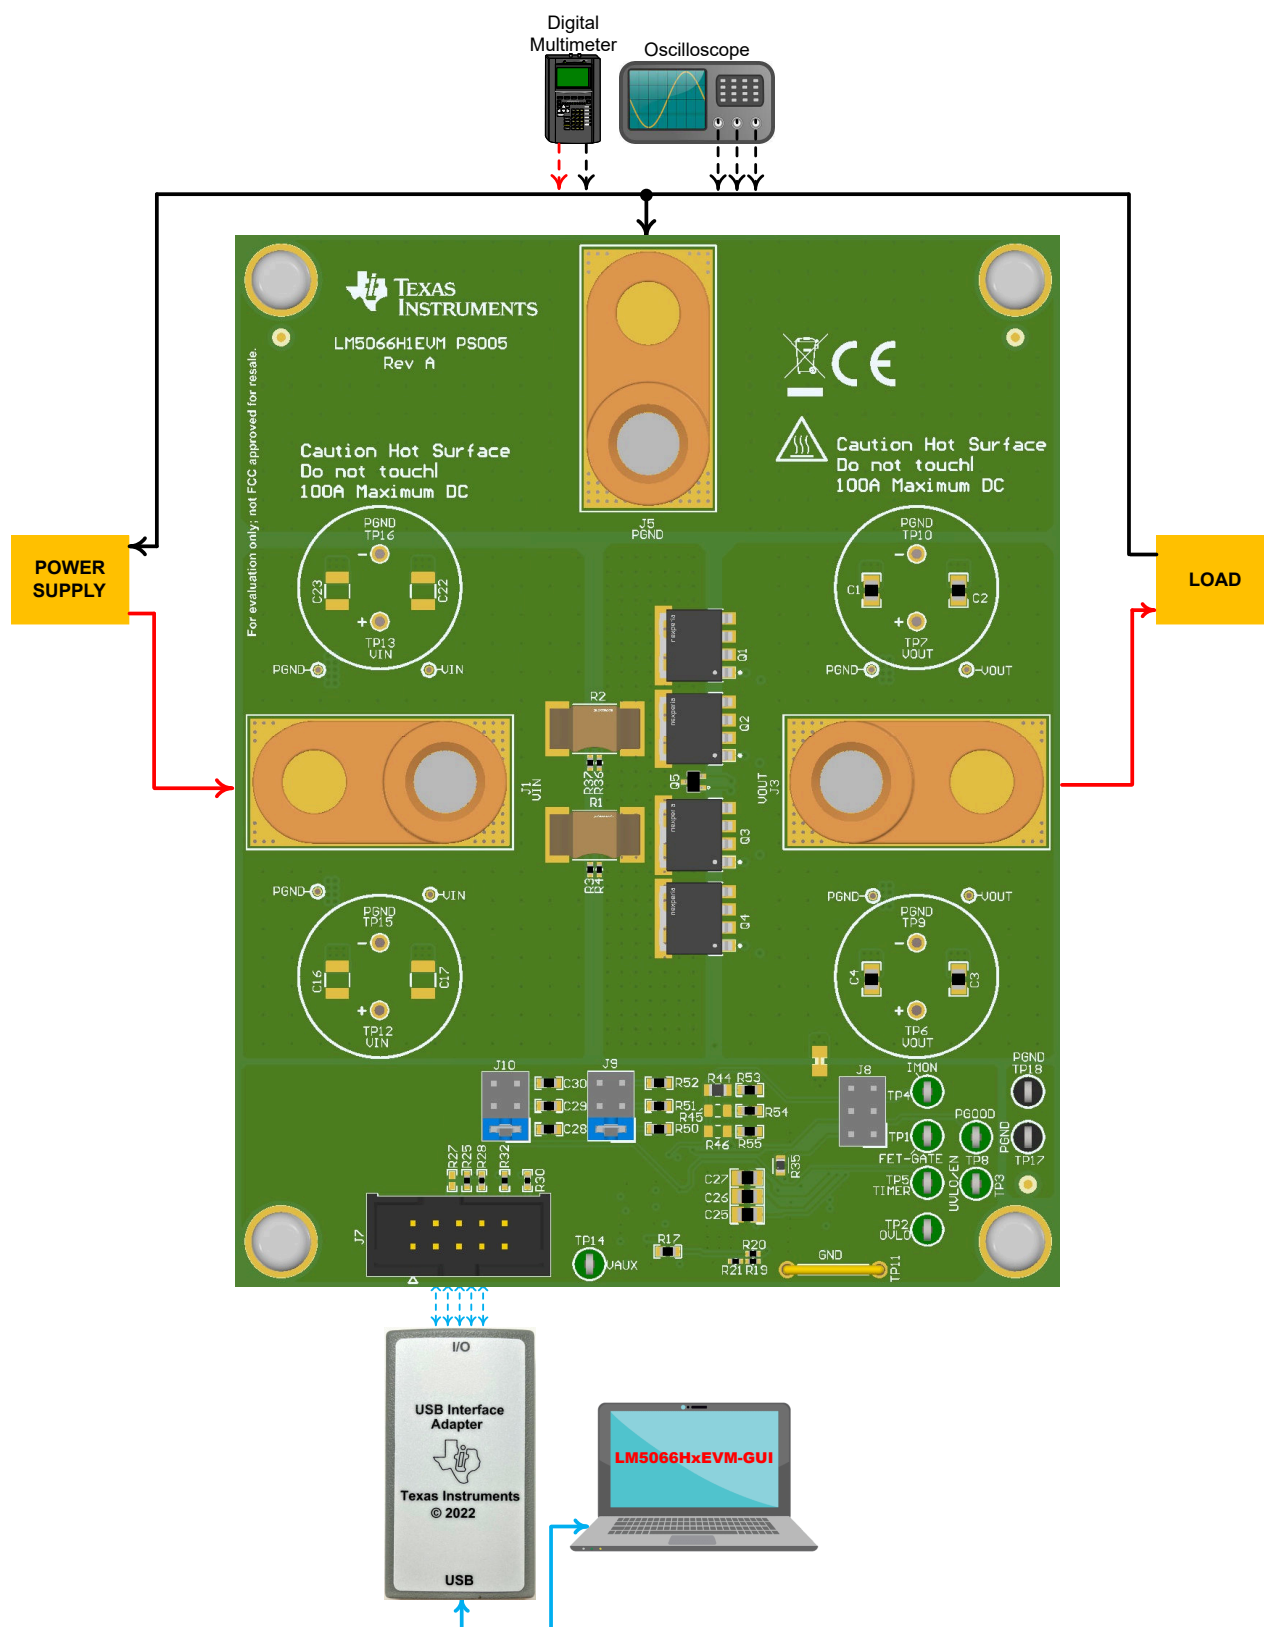

Figure 3-1. LM5066H1EVM Setup with Test Equipment
The LM5066H1EVM enables the evaluation of the LM5066H1 hot-swap controller from the LM5066Hx family, along with driving four (4) PSMN2R3-100SSE MOSFETs in parallel. The input power is applied across the connectors J1 and J5, while J3 and J5 provide the output connection for the EVM. Refer to the schematic in Figure 4-1 and EVM test setup in Figure 3-1. TVS diodes D1 and D2 provide the input protection from transient overvoltages. Schottky diodes D3 and D4 protect the output by clamping the negative voltage excursion at the OUT pins of the LM5066H1 hot-swap controller within the minimum absolute rating.